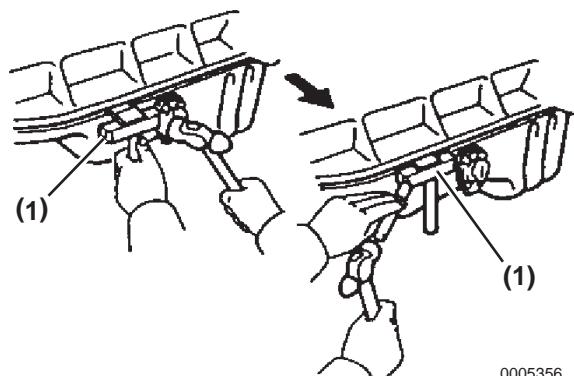

Figure 8-4
4. Remove the 27 oil pan nuts and bolts and insert an appropriate tool (**Figure 8-4, (1)**) between the cylinder block and oil pan to cut off the seal and then remove the oil pan. **NOTICE:** During removal avoid damaging the oil pan flange.